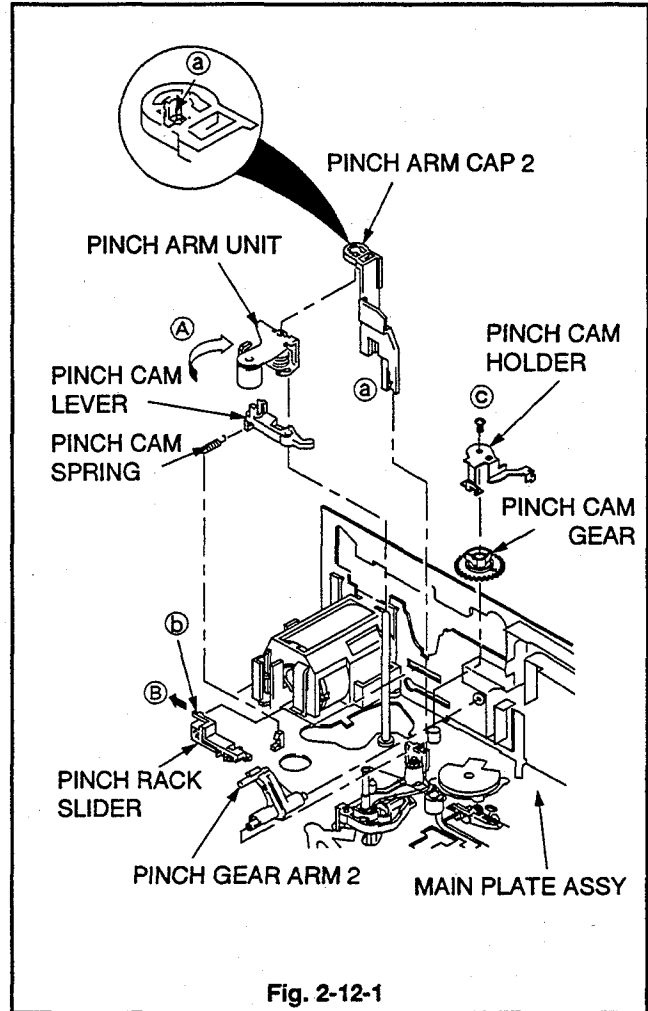

Fig. 2-12-1
1. Use tweezers to unfasten the two Catches (a) of the PINCH ARM CAP 2 shown in Fig. 2-12-1, and remove the PINCH ARM CAP 2.
2. Move the PINCH ARM UNIT in the direction shown by arrow (A) to remove it as shown in Fig. 2-12-1.
3. Remove the PINCH GEAR ARM 2 shown in Fig. 2-12-1.
4. Remove the PINCH CAM SPRING shown in Fig. 2-12-1.
5. Remove the PINCH CAM LEVER shown in Fig. 2-12-1.
6. Unfasten the Catch (b) of the PINCH RACK SLIDER shown in Fig. 2-12-1. Move the PINCH RACK SLIDER in the direction shown by arrow (B) to remove it.
7. Remove the screw (c) of the PINCH CAM HOLDER shown in Fig. 2-12-1, to remove the PINCH CAM HOLDER.
8. Remove the PINCH CAM GEAR shown in Fig. 2-12-1.
6. Install the PINCH CAM LEVER shown in Fig. 2-12-1.
7. Install the PINCH CAM SPRING shown in Fig. 2-12-1.
10. Move the PINCH ARM UNIT in the opposite direction of arrow (A) to install it as shown in Fig. 2-12-1.
11. Install the PINCH ARM CAP 2 shown in Fig. 2-12-1.